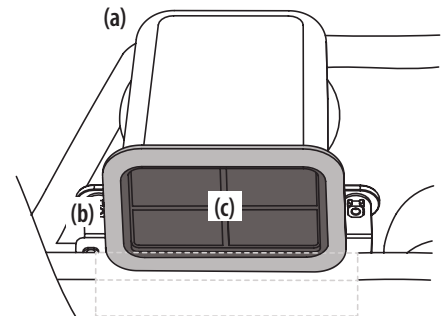

Figure 5-30
- Remove the rubber seal (b) around the front of the air intake (a) and remove the air intake screen (c). See Figure 5-30.
- Rinse the air intake screen (c) with water and replace the air intake screen (c) and rubber seal (b). See Figure 5-30.